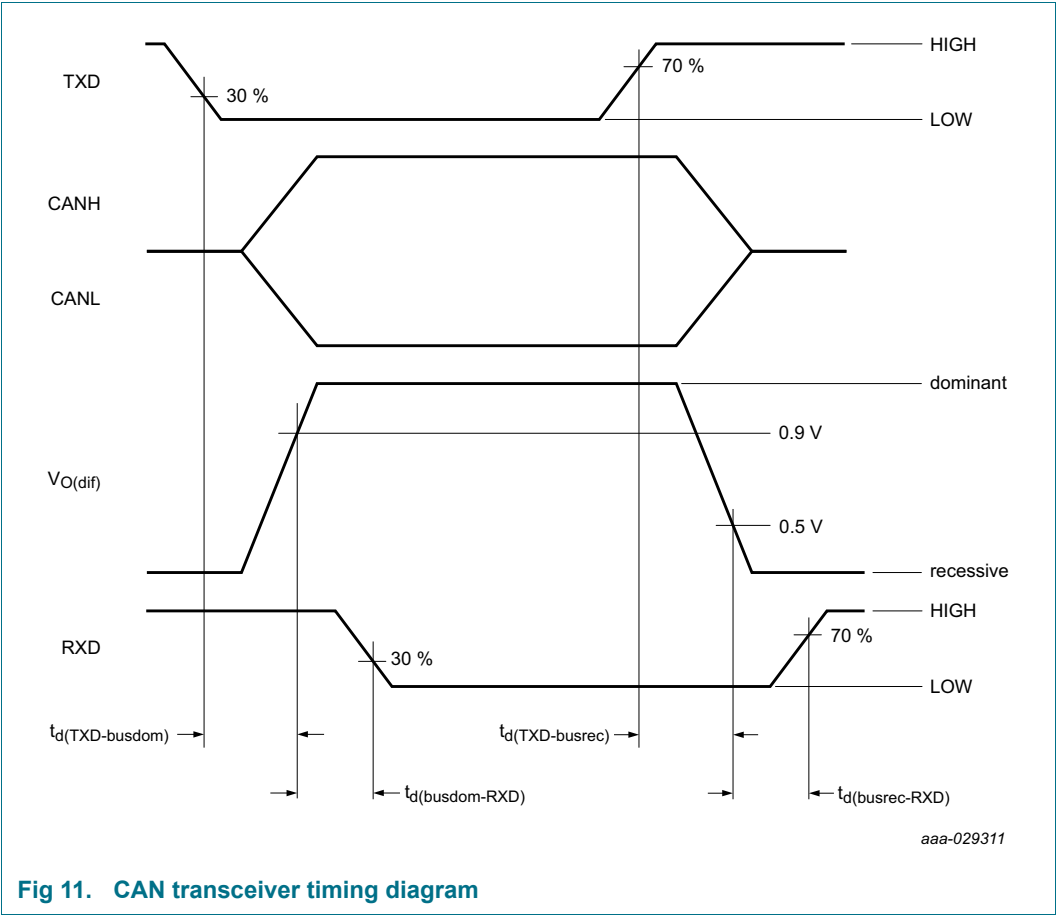

Fig 11. CAN transceiver timing diagram
- [2] See Figure 11 and Figure 16.